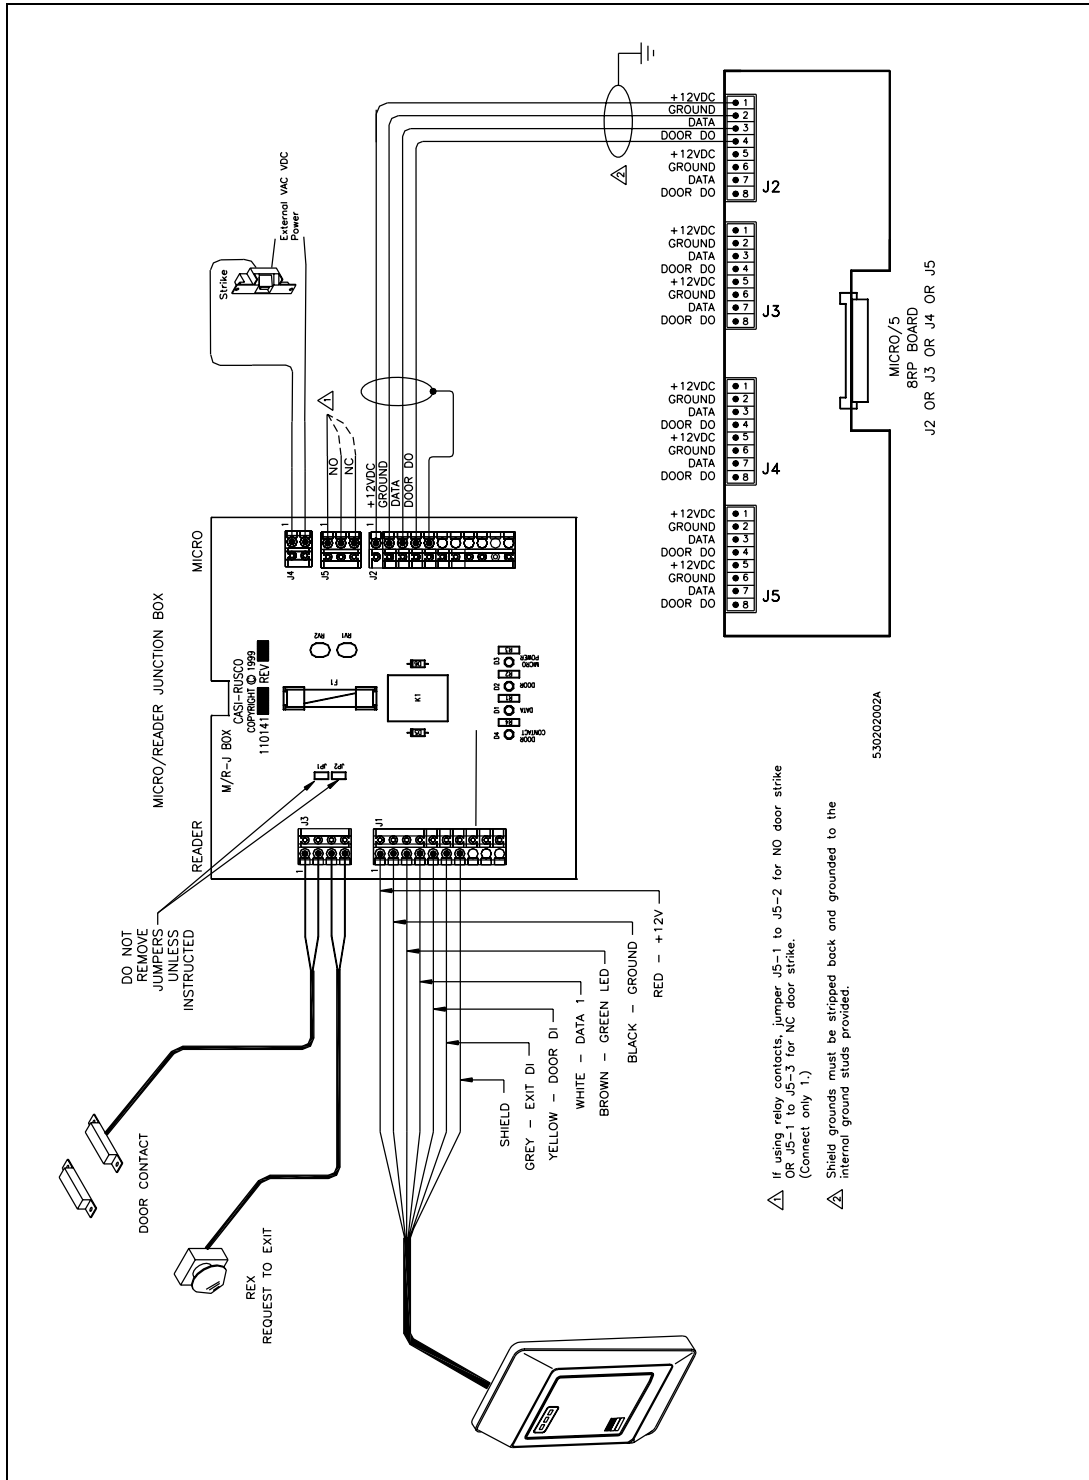

Figure 6. Junction Box to Micro/5 8RP Microcontroller - Relay Contact Only
- Figure 6. Junction Box to Micro/5 8RP Microcontroller - Relay Contact Only